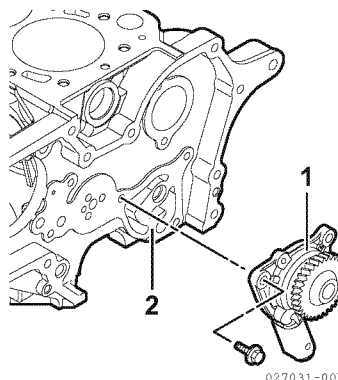

Figure 9-15
3. Remove the lubricating oil pump assembly mounting bolts. Remove the lubricating oil pump assembly (1, **Figure 9-15**) from the gear case flange (2, **Figure 9-15**).